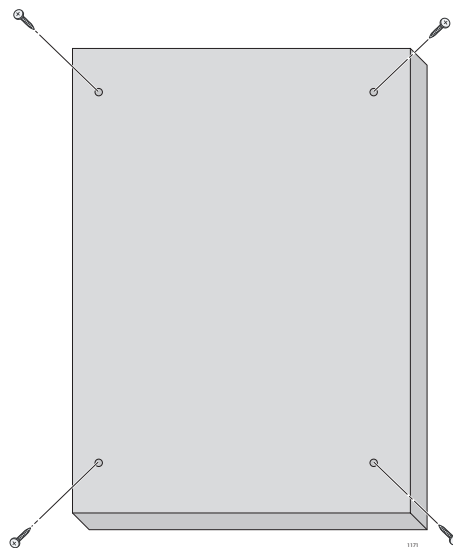

Figure 46. Securing the Plywood to the Wall
5. Install the anchors and drive the long pan head self-tapping screws into the wall anchors to secure the plywood to the wall, as shown in Figure 46.